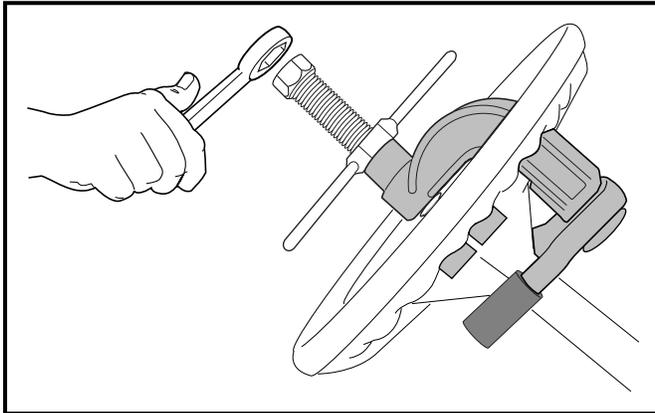

Figure 7-1 Steering Wheel Puller
4. Pull the steering wheel until it breaks free from the shaft splines (Club Car recommends using a steering wheel puller) (**Figure 7-1, Page 7-2**).